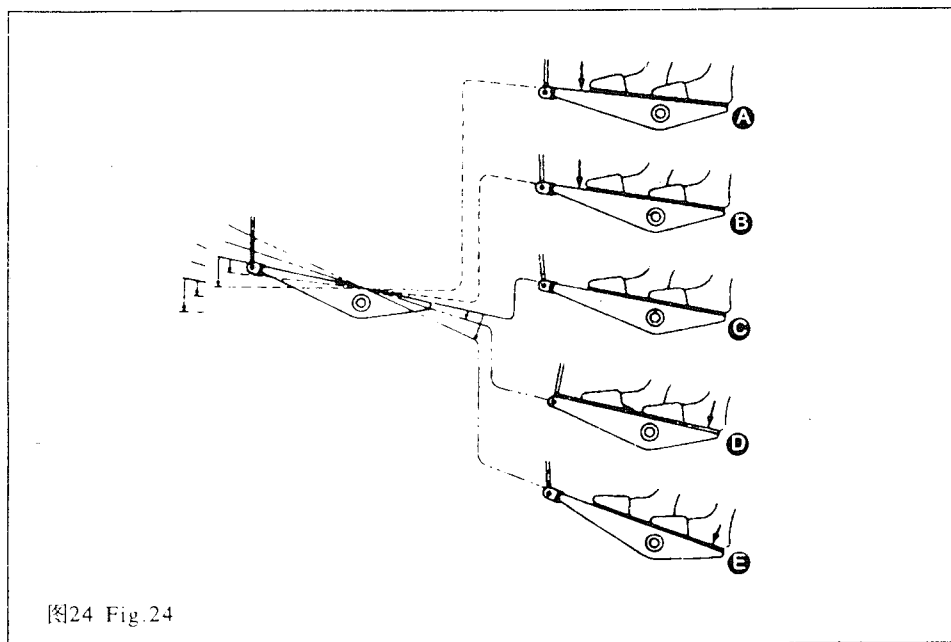

图24 Fig.24
- 2) Tighten locknut ① to fix the thread stand.
18. 踏板操作(图24)
18. PEDAL OPERATION (Fig.24)